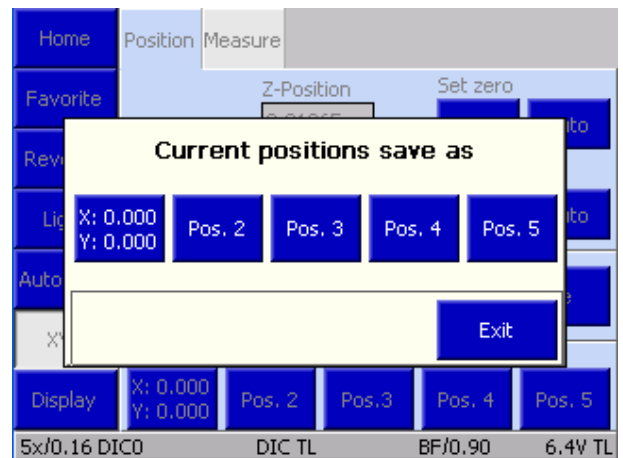

Fig. 4-52 Microscope -> XYZ-> Save current positions
- Press the **Save Position** button. This will bring up the **Current positions save as** popup window (Fig. 4-52).